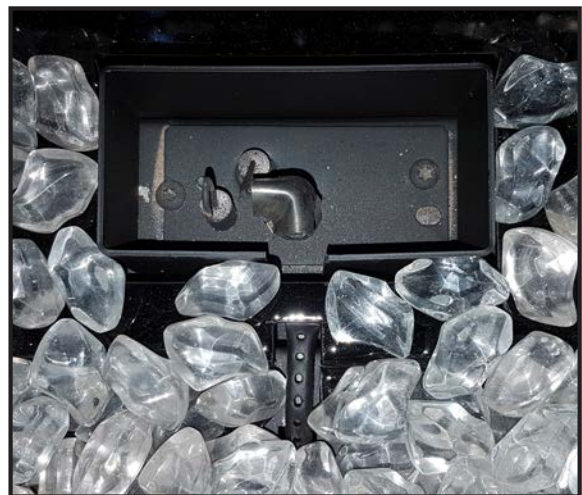

Figure 24. Correct Pilot
8. Reinstall the burner, tray, glass media, and glass door. Also refer to SECONDARY INSTALLATION - FIREBOX LINER AND BURNER TRAY REMOVAL section. When re-installing the burner, ensure that the burner to pilot hood and shield relationship is similar to what is shown in Figure 24.